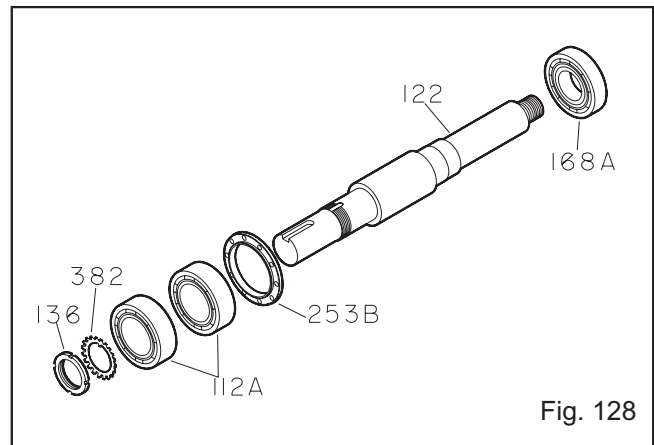

Fig. 128
4. Place lockwasher (382) on shaft (122). Place tang of lockwasher in keyway of shaft (Fig. 128).
5. Thread locknut (136) onto shaft (122). Tighten locknut until snug. Bend any tang of lockwasher (382) into a slot of locknut.
6. Place bearing clamp ring (253B) over shaft (122). Note orientation.
7. Install inboard bearing (168A) on shaft (122).